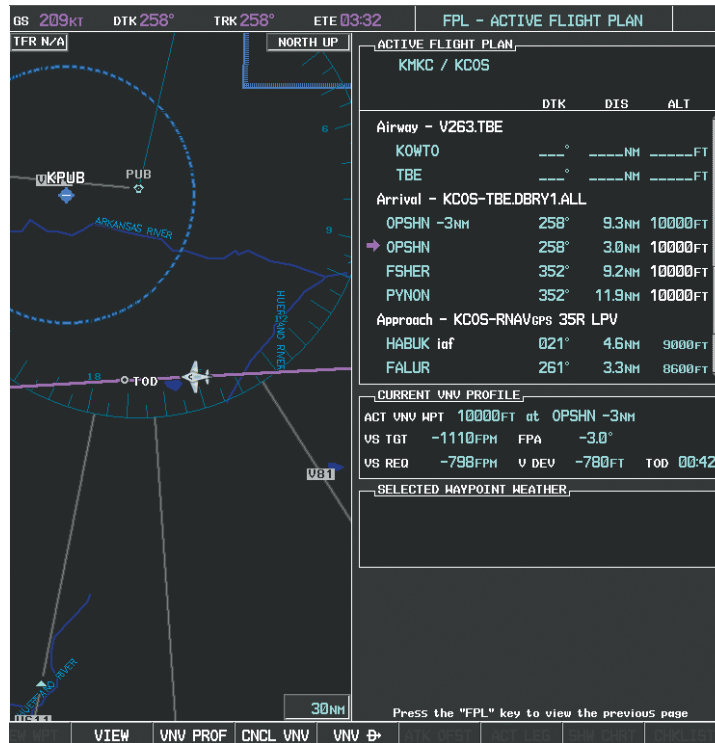
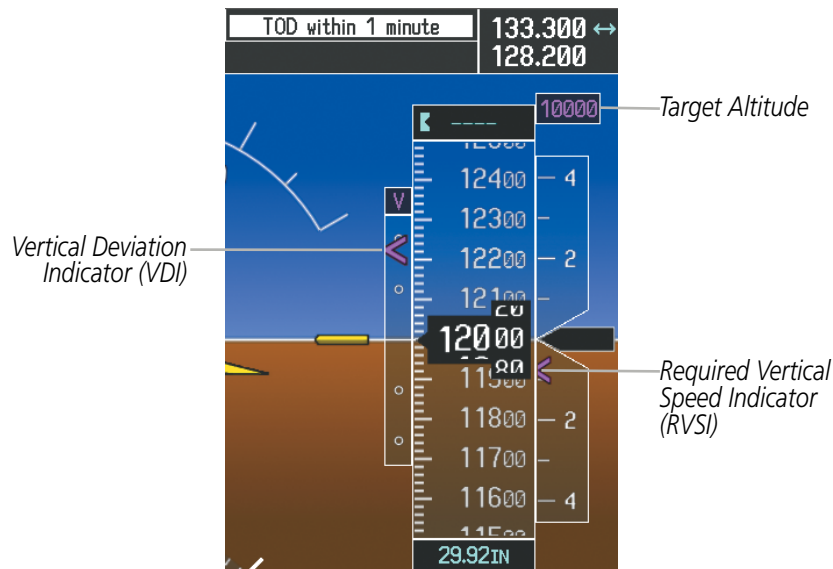

Figure 5-140 Approaching Top of Descent (TOD)
Figure 5-141 VDI & RVSI When Approaching Top of Descent (TOD)
15) As seen in Figure 5-140, the aircraft is approaching TOD. Note the target vertical speed required to reach the selected altitude. The Vertical Deviation Indicator (VDI) and the Required Vertical Speed Indicator (RVSI) are now displayed on the PFD as shown in Figure 5-141. When the aircraft is within one minute of the TOD, it is annunciated as shown in Figure 5-141, and an aural alert 'Vertical track' will be heard.